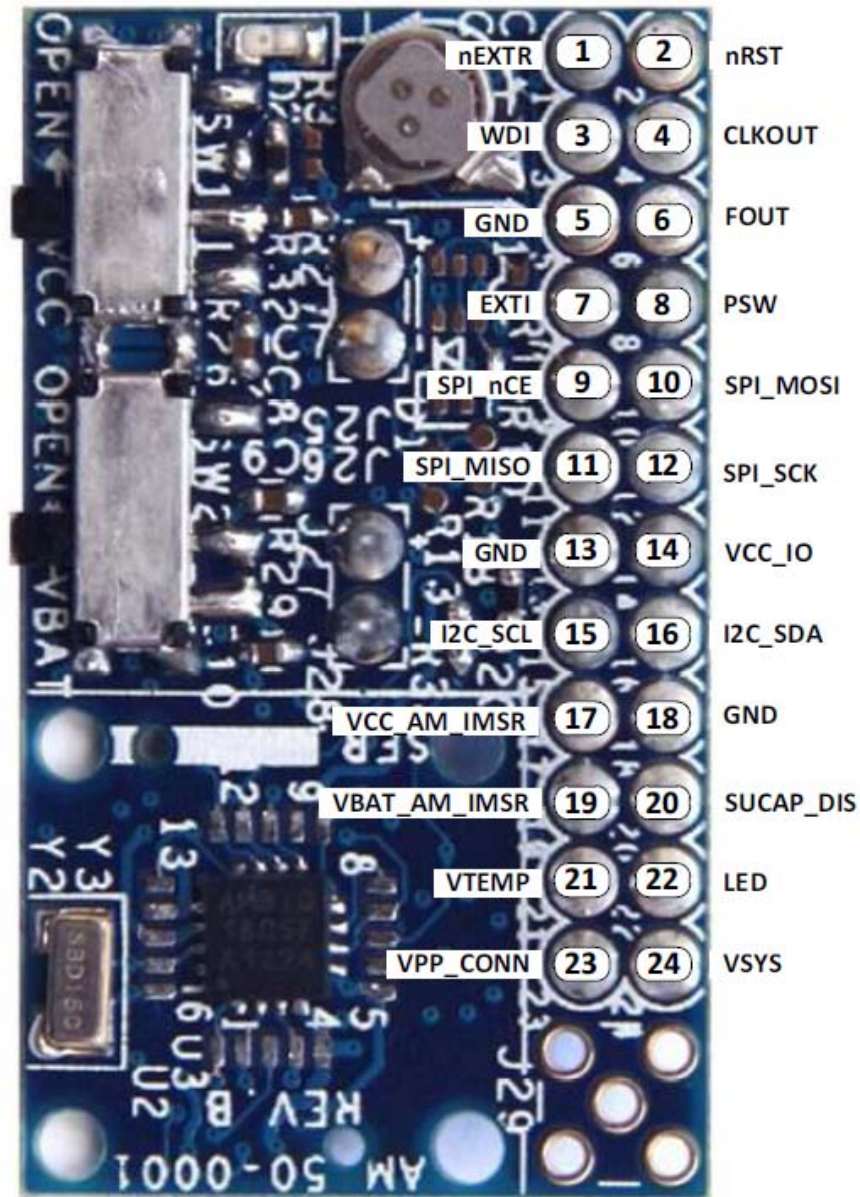

Figure 6. 24-pin Header connector Pin-out
Figure 6 shows the location of the names and numbers each of the pins (pin-out) of the 24-pin header connector.
4. Connect the VCC, VBAT (if applicable), and VSS pins on the EVK connector to appropriate supply voltages. The VCC supply voltage should be connected to both VCC_AM_IMSR (pin 17) and VCC_IO (pin 14) (see Figure 6). The VBAT supply voltage should be connected to VCC_AM_IMSR (pin 19). The HC VCC and AB18X5 VCC supplies should be the same voltage.